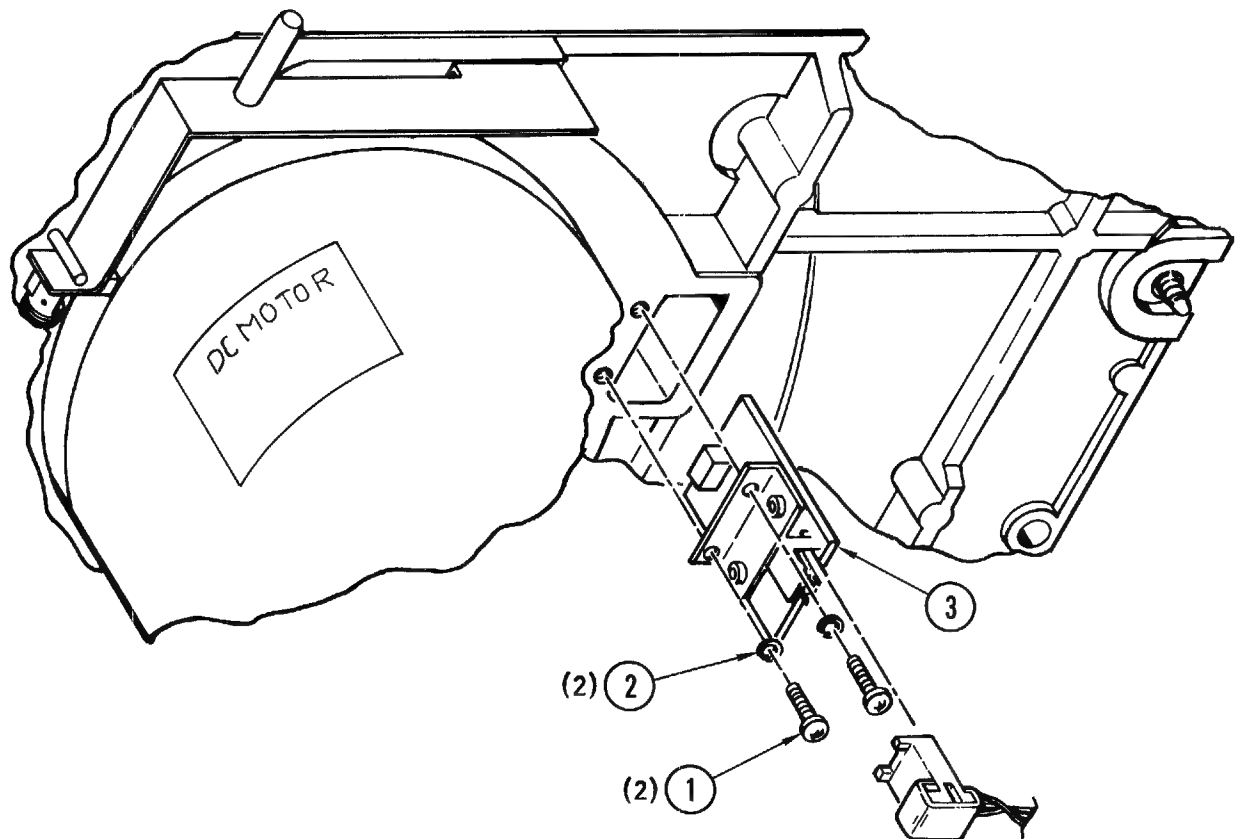

Figure 4-22. File-Protect Sensor
4-36. **Removal and Replacement (Figure 4-22).** Place the transport in service access position in accordance with paragraph 4-3 and proceed as follows:
- a. Remove connector (back of top plate) from file-protect sensor (3, Figure 4-22).
- b. Remove two screws (1) and lockwashers (2) and pull sensor (1) carefully through hole of top plate. Save attaching parts for reassembly.
- c. Position replacement sensor carefully through hole and secure with screws (1) and lockwashers (2).